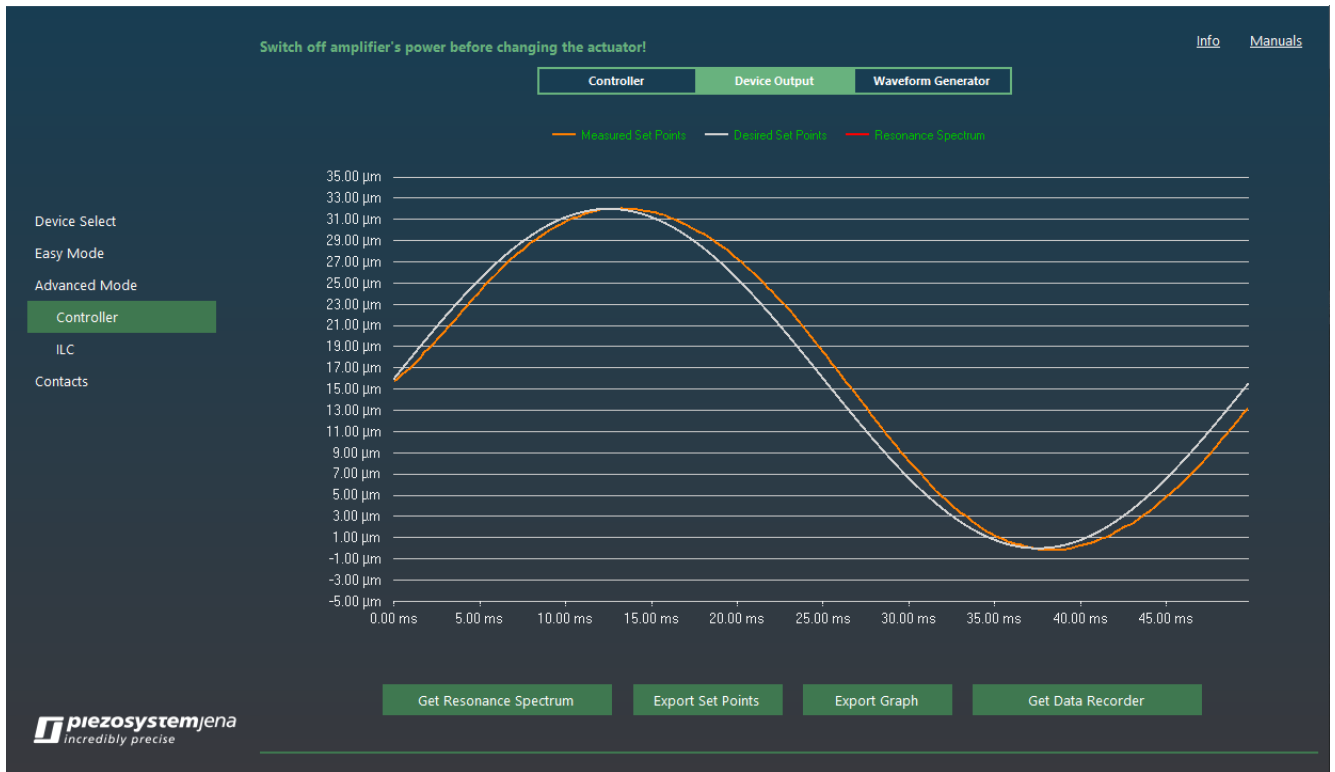

Figure 11 Wave Form generated movement feedback from the NV200D/NET
- To check the results of the actuator, switch back to the **Device Output** Tab from the top of the Service Tool. And press the **Get Data Recorder** button (**Figure 11**).